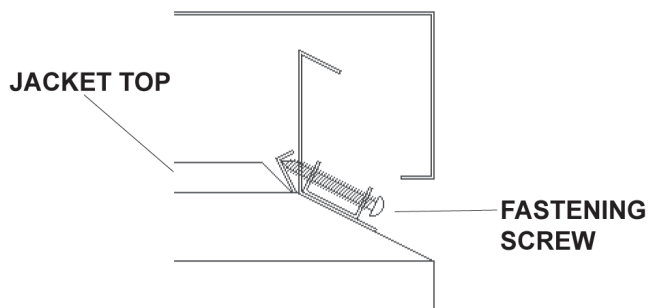

Figure 7. Outdoor Top Installation for Models 0514-0824
2. Tighten the (4) screws until they come in contact with the unit jacket top then evenly tighten all (4) screws to secure to unit. See Figure 7.